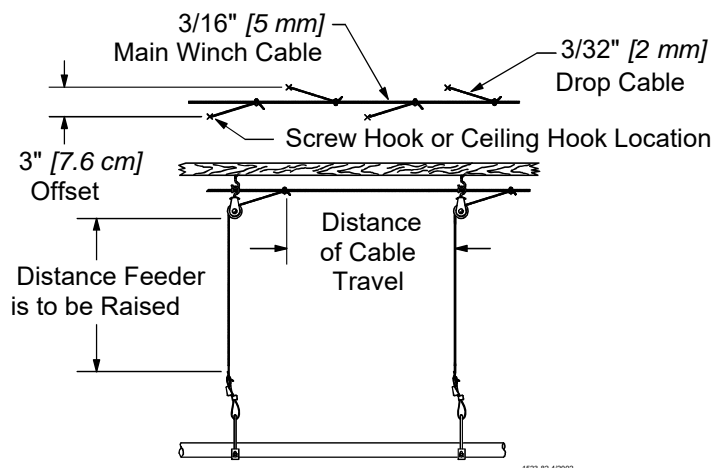

**Figure 11. Power Winch Drum Rotation**
3. Turn the winch drum one full revolution. Guide the cable against the flange at the bottom of the winch drum. The cable must not wrap over itself on the drum, but should be wrapped as close as possible to each previous wrap. See **Figure 11**.